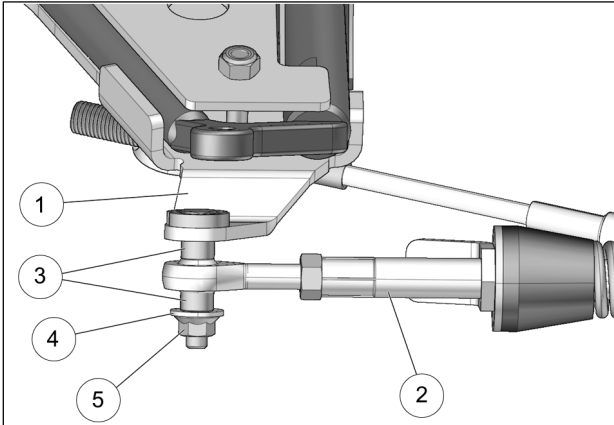

Fig. 21
14. Attach the stabilizing rod (2) to the anchor bracket (1), using the two spacer bushings (3), flat washer (4), and nut (5). Torque to 70 N•m [52 lb•ft]. Refer to Fig. 21